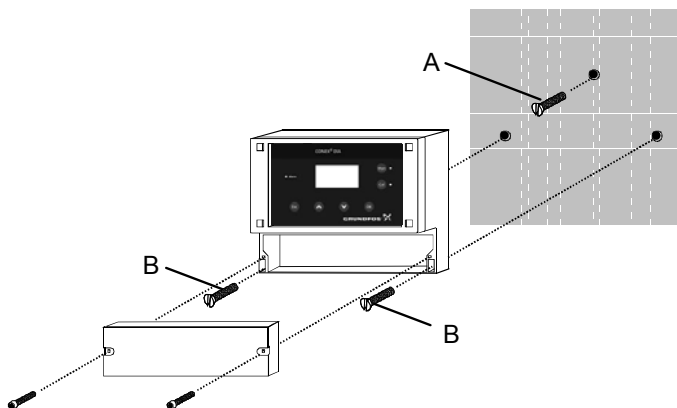

Fig. 7 Mounting drawing
2. Screw the screw (A) into the top centre dowel until it projects by approximately 1 cm. See fig. 7.
4. Hang the instrument onto the screw (A).
5. Tighten the instrument with the two screws (B).